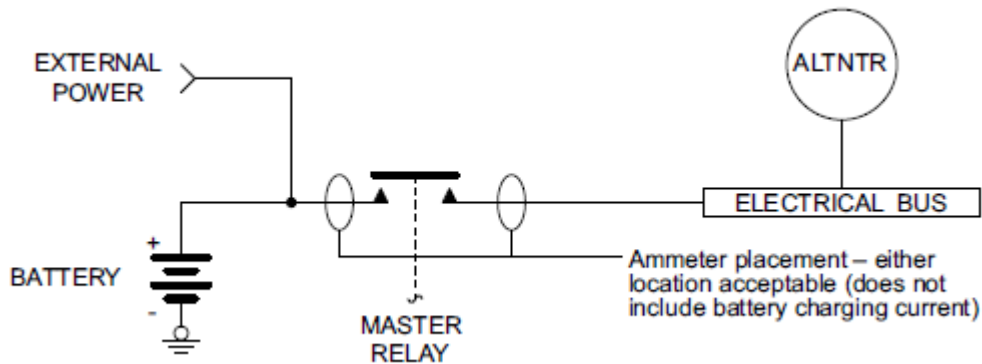

Figure 3-1 Ammeter Placement for Current Measurements
6. Insert/attach the ammeter in the line from the external power source to the master relay circuit as shown in Figure 3-1. This will eliminate errors due to the charging current drawn by the battery.